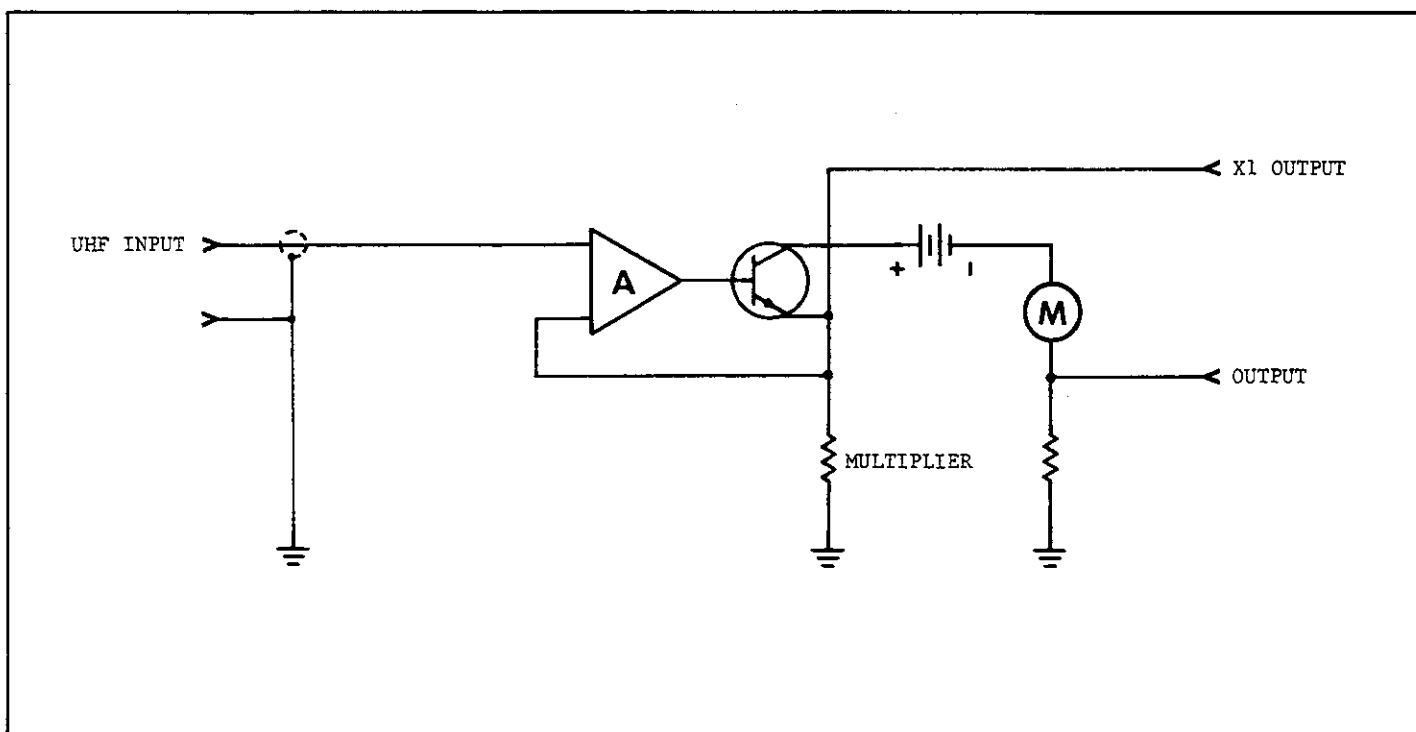

FIGURE 10. Voltmeter Configuration, NORMAL Mode.
a. The Model 610C employs matched insulated-gate field-effect transistors followed by a transistor differential amplifier with a high-voltage complementary-output stage. Figure 10 shows the block diagram for the voltmeter mode of operation.